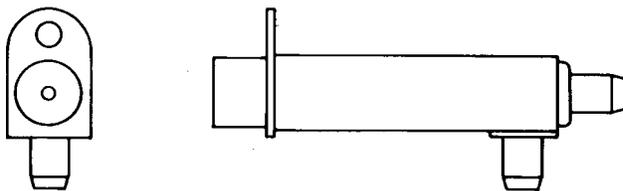

Fig. 18—568A Jack
2.18 568A: This coaxial-type jack (Fig. 18) with a T connection is designed to accept two 730A coaxial cables at right angles to each other and mates with the 440A and similar-type plugs. This jack withstands a 1500 volt ac breakdown test. The 568A jack is used with the L4 Mastergroup J68882AP and J68882AW.